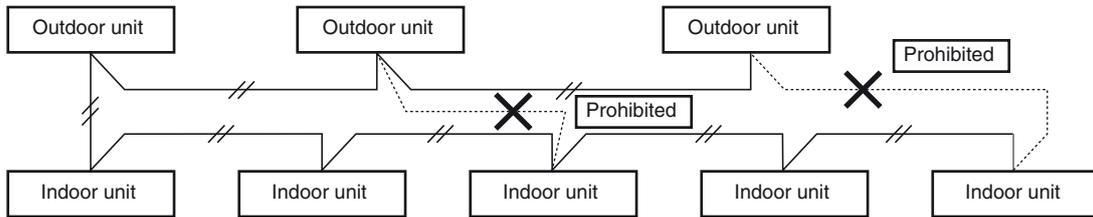

Fig. 4-3
- Do not install the inter-unit control wiring in a way that forms a loop. (Fig. 4-3)